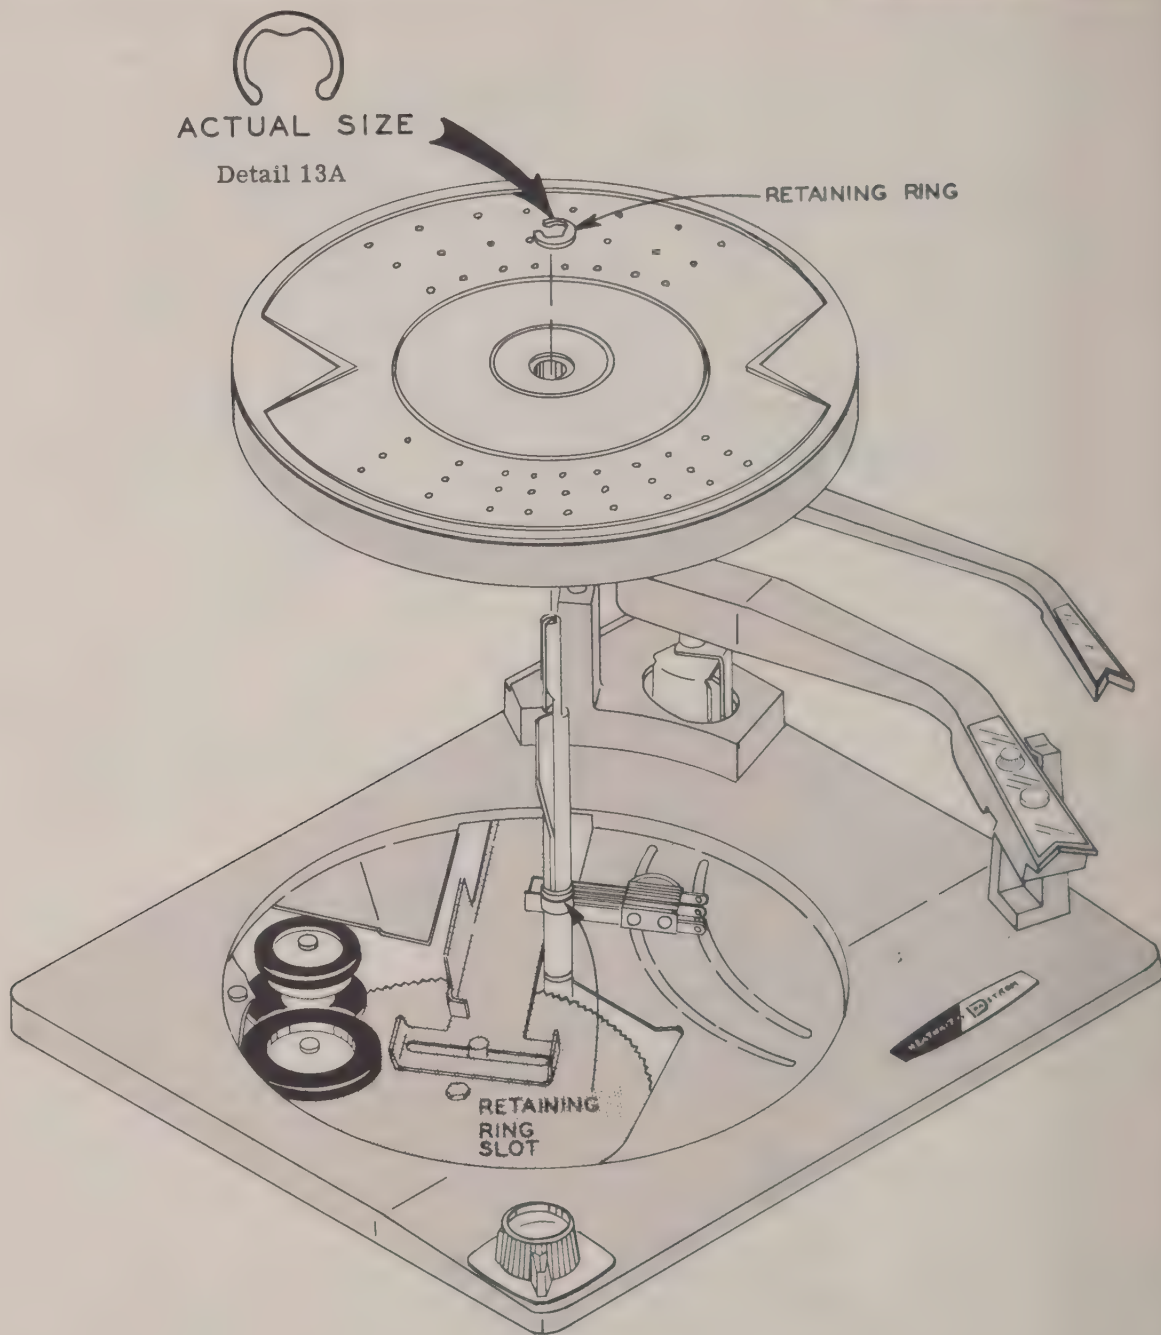

Figure 13
- () Place the turntable on the spindle and secure it in position with the large retaining ring from bag "EE". See Figure 13 and Detail 13A.